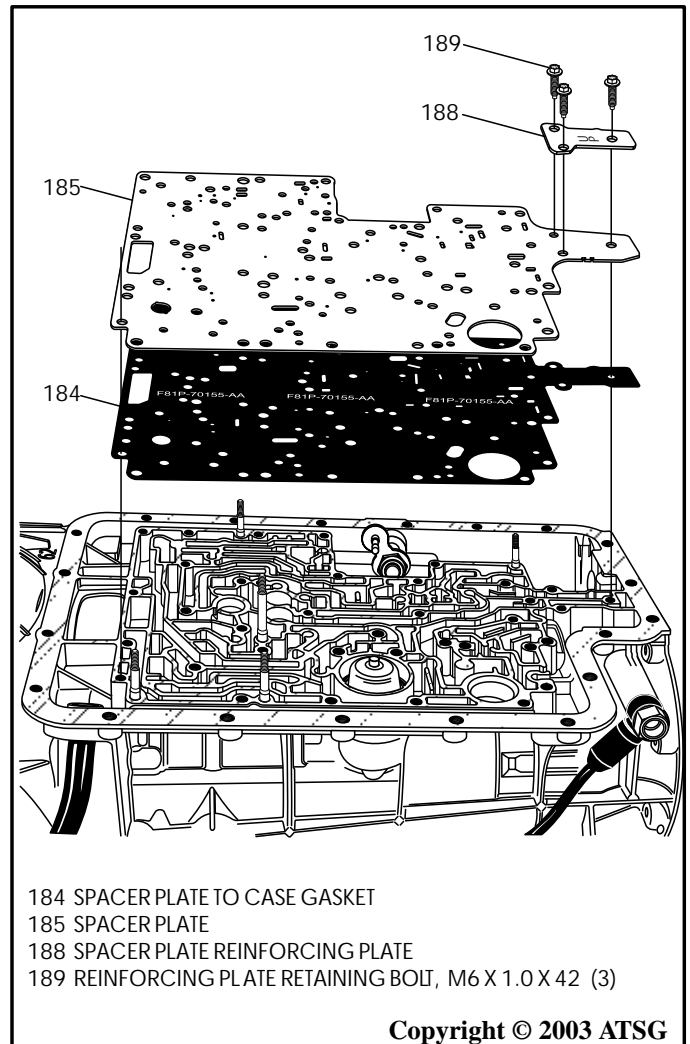

Figure 190
4. Install new spacer plate to case gasket on case surface, as shown in Figure 190.
5. Install spacer plate, reinforcing plate and the 3 retaining bolts, as shown in Figure 190, and hand tighten only at this time.